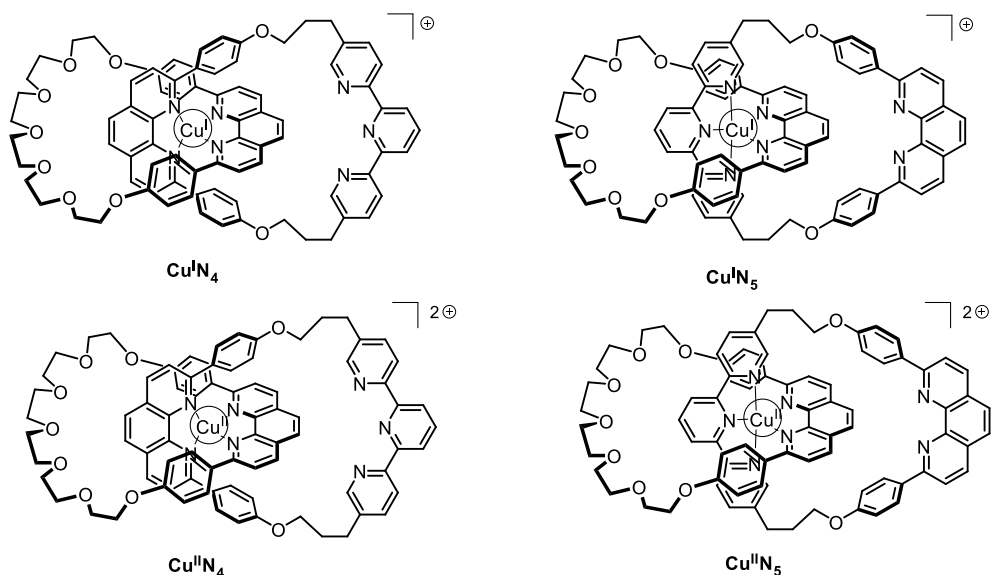

Fig. 2 – [2]catenane **L** states
11. **Fill** in the solid boxes with the designation of the involved complexes in Fig. 2 and **complete** the sequence to achieve electrochemical control of the system using the following notation for the dashed boxes:  (rotation); $+\text{e}^-$; $-\text{e}^-$.